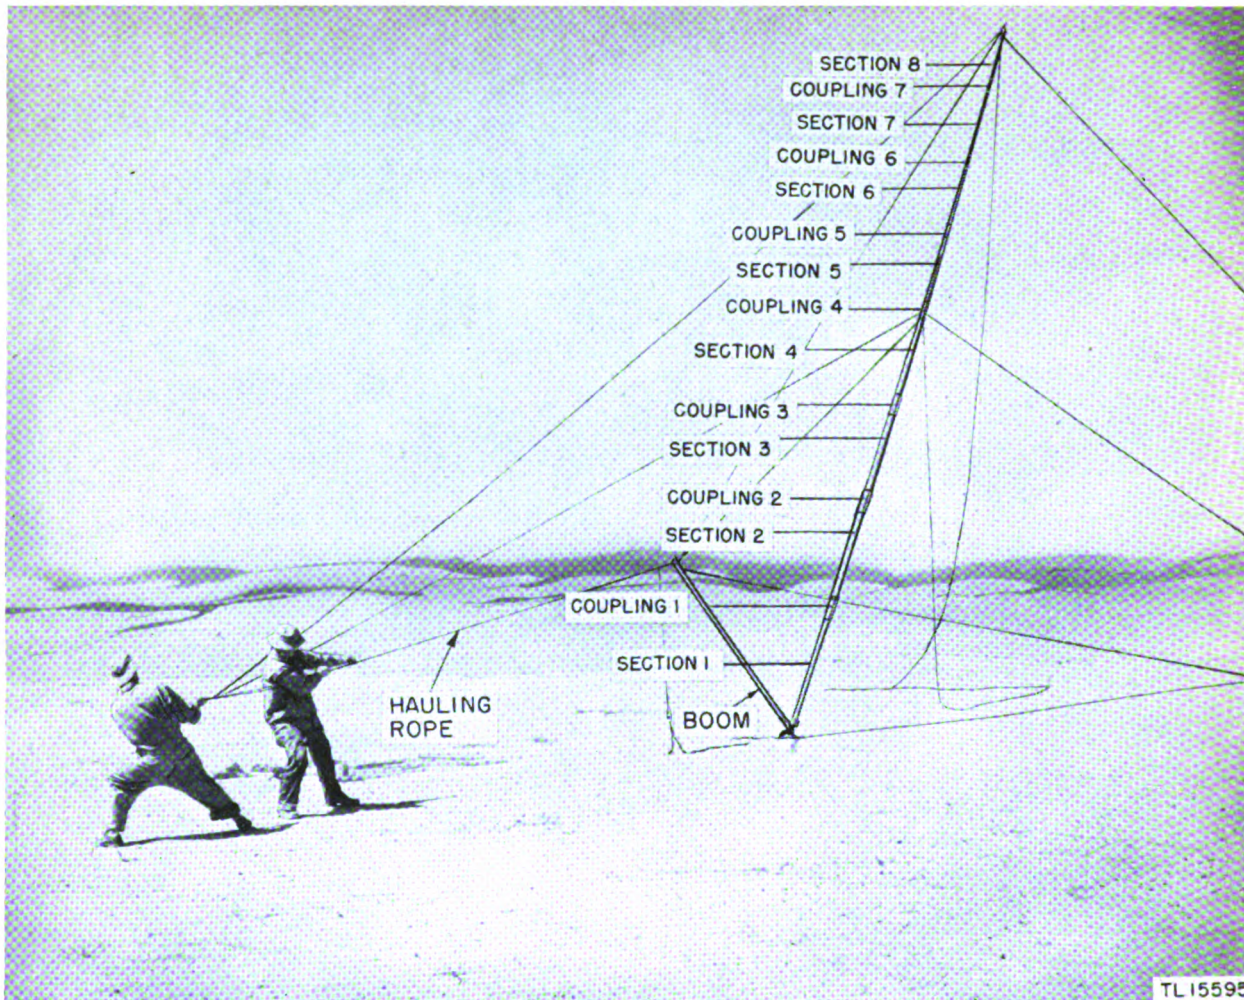

Figure 18. Mast approaching the vertical position.
(5) When the mast comes off the ground under the steady pull at the hauling rope, the boom will approach the ground (fig. 18).